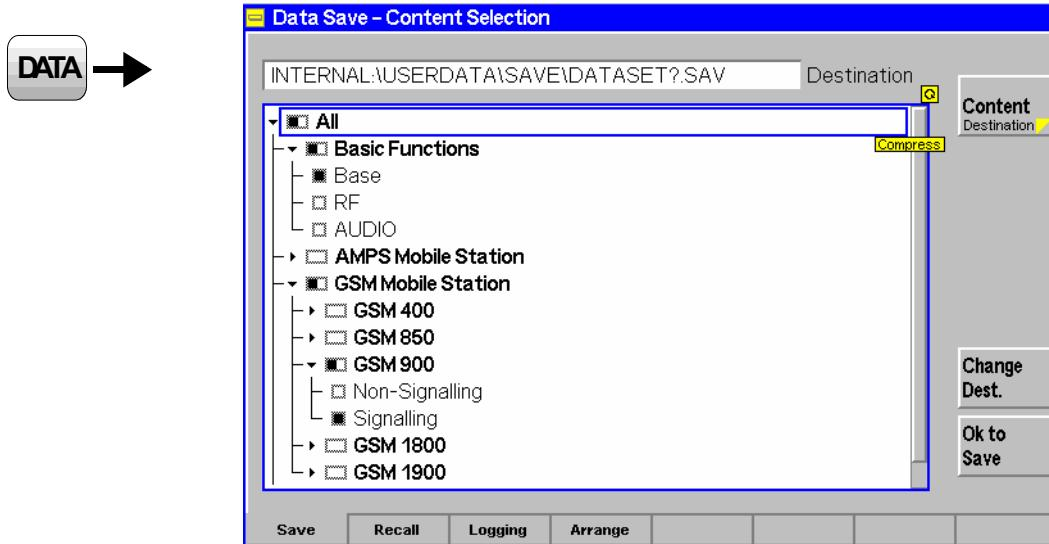

Fig. 4-15 Data – Save menu
*Content/Destination* toggles between the configuration tree (see Fig. 4-15 above) and a view of the directories available for storing the configuration file (\*.SAV). The *Destination* view is analogous to the *Arrange* tab; see section File Manager \(Data – Arrange\) on p. 4.37.